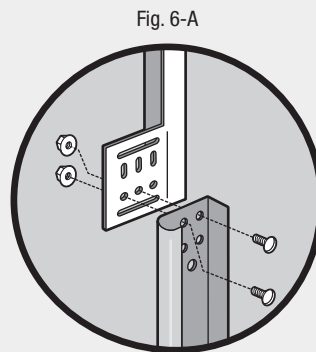

Fig. 6-A
- Align top two holes on each track with two outer holes on bottom of flag brackets and loosely attach using (2) 1/4"-20 x 9/16" track bolts and 1/4" flange nuts. The head of the bolts should face the inside of the track (Fig. 6-A).